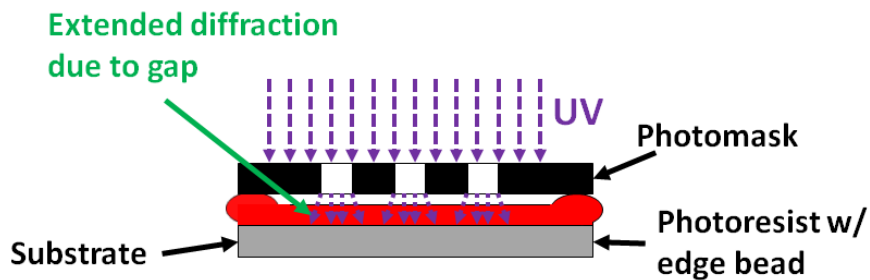
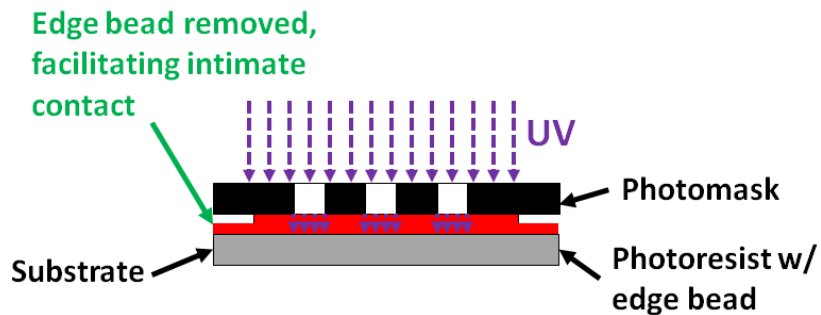

Figure 2 Undesired diffraction effect due to gap created by the edge bead.
Figure 3 Desired intimate contact with photomask is achieved when the edge bead is removed.
- b) Edge beads can cause sample to stick to mask (**Figure 2**)
- c) It may also reduce your feature size due to the inability of your sample to make intimate contact to the photomask (**Figure 2 & Figure 3**). The gap between the mask and the sample extends the diffraction pattern and therefore deteriorates resolution.